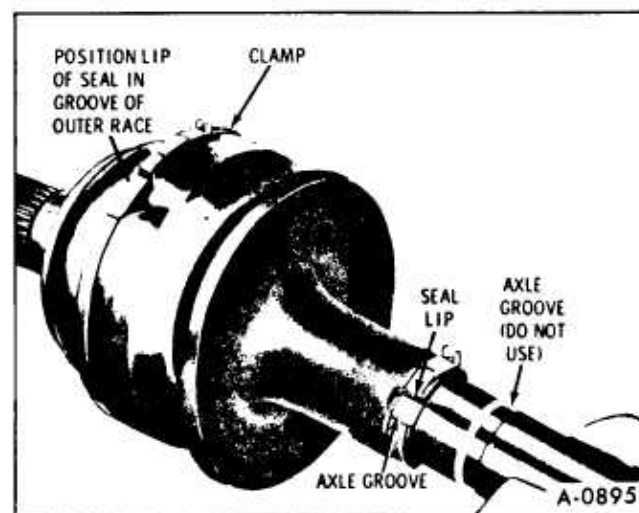

Figure 14—Positioning Seal
11. Position seal in groove of outer race. (figure 14)
12. Position small end of seal in nearest joint groove on axle shaft. (figure 14)